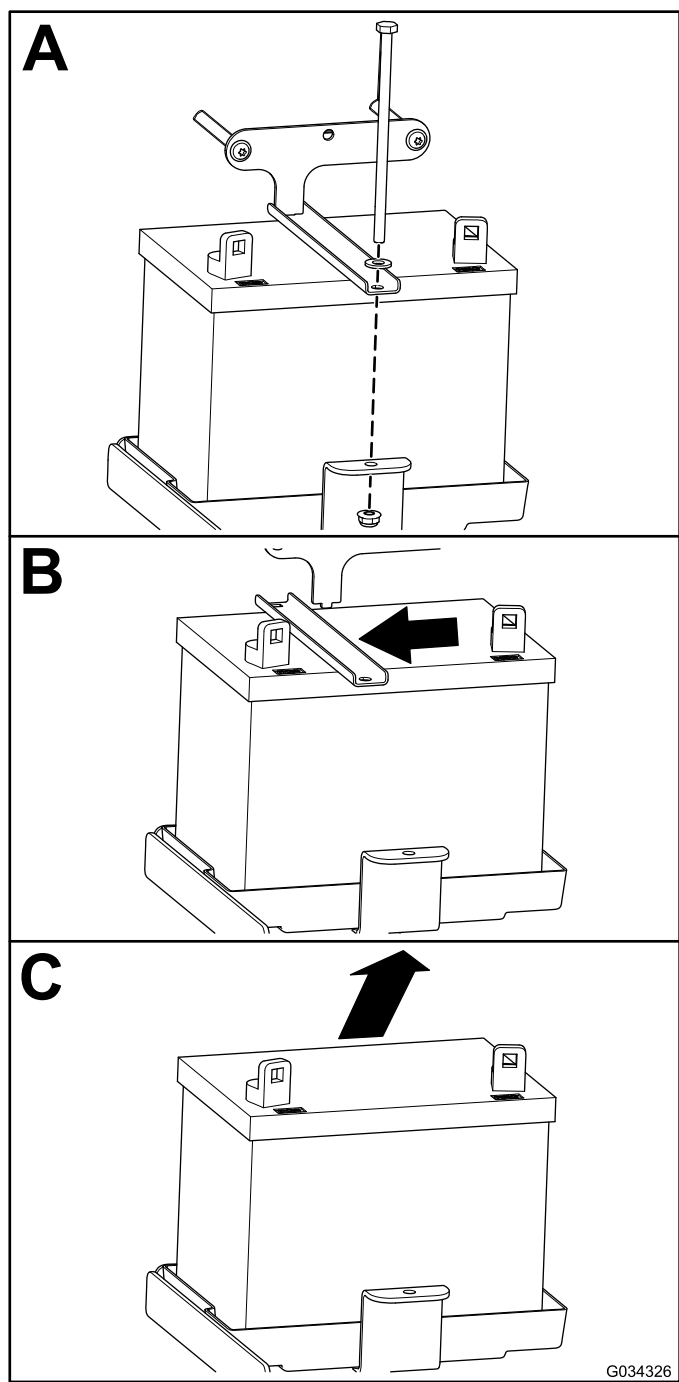

Figure 46
2. Remove the battery as shown in Figure 46.